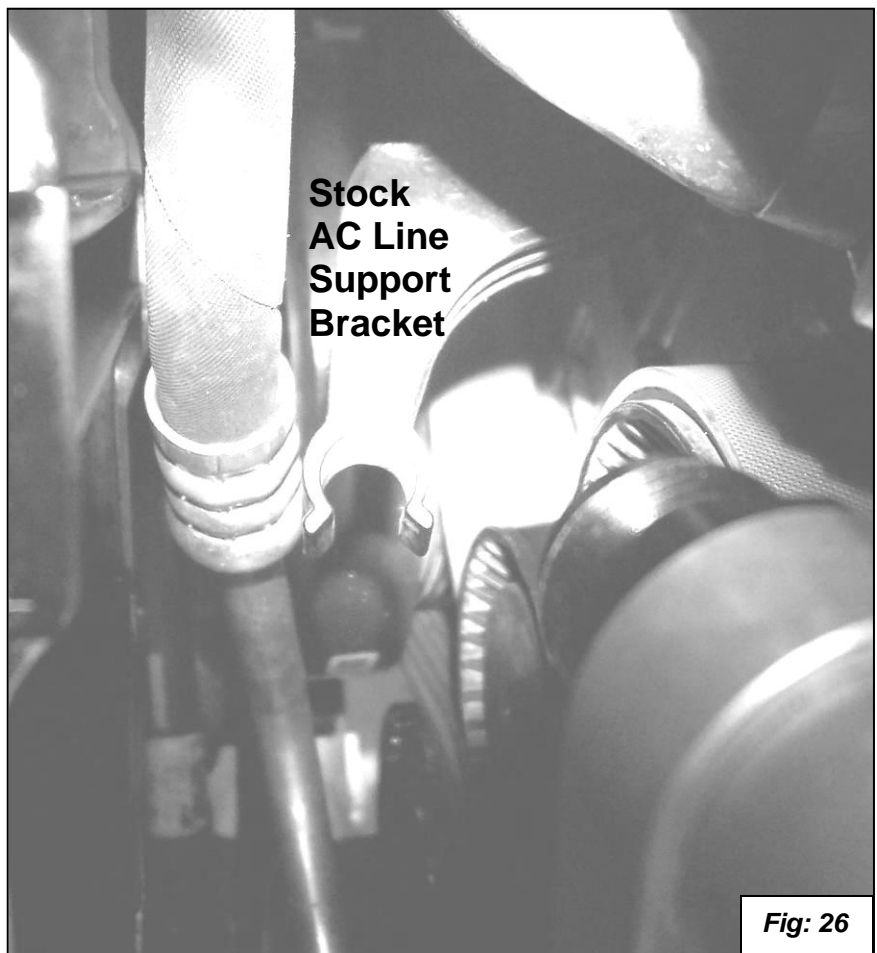

Fig: 26
25. Replace the AC Line Support Bracket. To make room for the new Oil Cooler Hoses you will need to remove the stock plastic AC line support bracket from the front of engine. This bracket will be replaced by a new steel AC Line Support Bracket that relocates the AC line down and slightly forward. Pull the AC line out of the C-shaped tip of the stock support bkt. Remove bracket and save the single mounting bolt for the new support bracket. See **figure 26**.